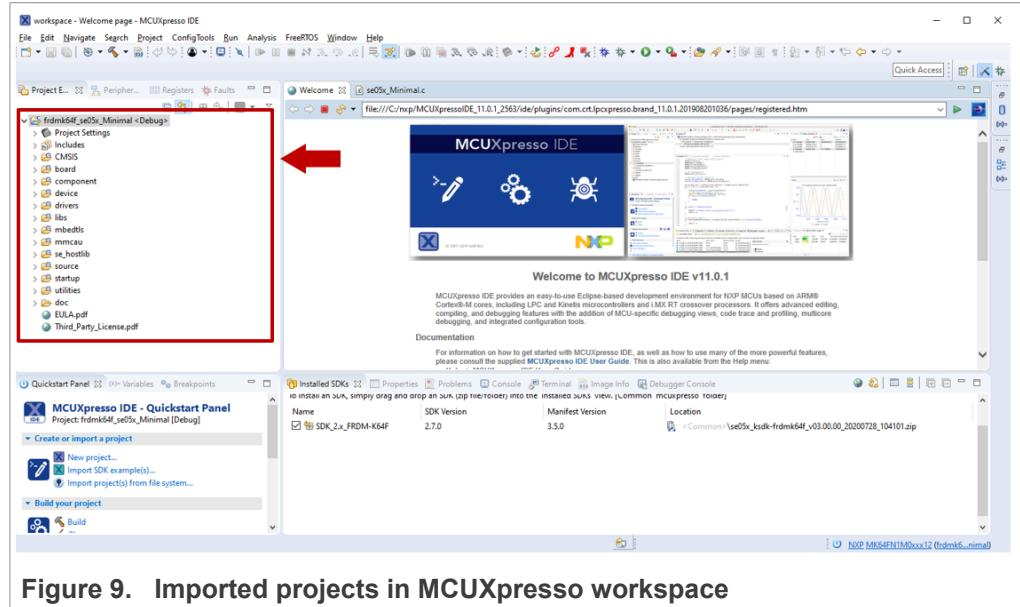

Figure 9. Imported projects in MCUXpresso workspace
4. The projects you selected should now be visible in your MCUXpresso workspace as shown in Figure 9: